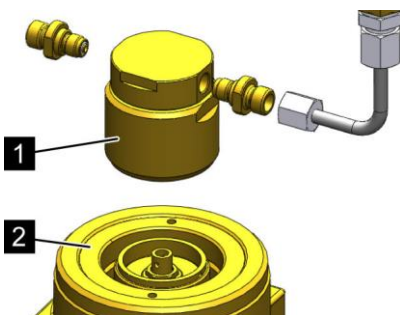

Fig. 136: Removing the release device
1. ➤ Unscrew the release device (Fig. 136/1) from the valve (Fig. 136/2) of the extinguishing agent container.